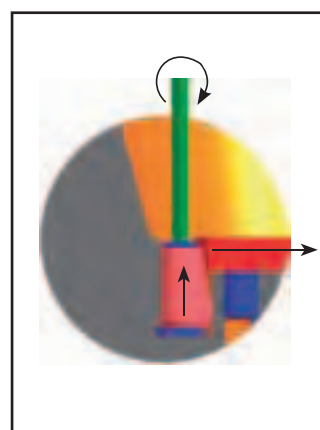

Fig. 3: OPERATION
2. Adjust indexable insert to 0.05 mm of diameter before the final dimension: Insert the hexagonal key in the setting screw and adjust the diameter in clockwise direction (fig. 3). Then tighten the indexable insert clamping screw to the specified tightening torque.